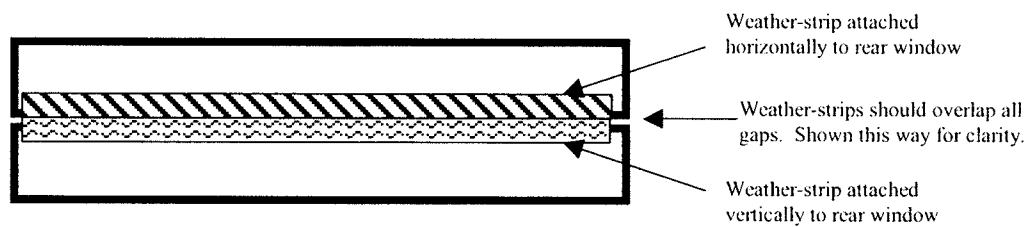

Figure 1: Window Overlap Weather-strip Installation
- 6) Create an insulating barrier along the top of the open window with the remainder of the weather stripping. The easiest way to do this is to place one piece of weather stripping glued horizontally to the fixed rear window right at the level of the top of the open window. Next, install a second weather strip by attaching it to the top of the open window – making sure it is firmly up against the weather strip on the rear window. See Figure 1 on the next page.